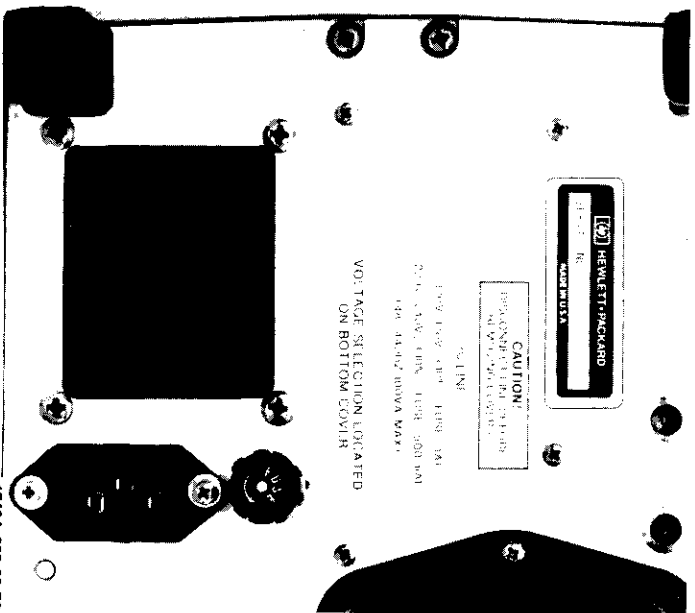

Figure 3. Fuse Replacement
3. For 220-V or 240-V inputs, replace fuse F1 with the 0.5 ampere slow-blow fuse supplied with your instrument (see figure 3).